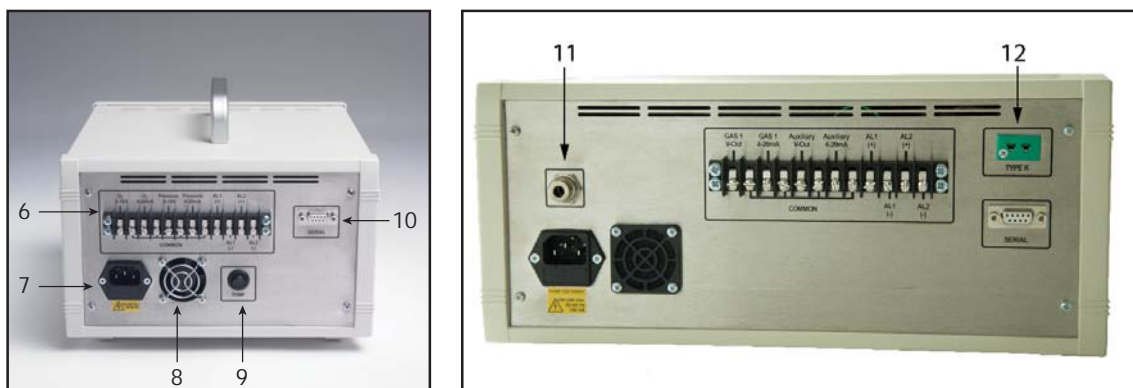

Figure 2 XGA301 Rear Panel (A1 & A3)
Ensure that the XGA301 analyzer is located away from extreme heat and dirty environments. Plug the unit into a suitable supply, using the power cable supplied, and into the power socket (*Figure 2 (7)*) on the rear panel. Make sure that the cooling fan (*Figure 2 (8)*) is not obstructed during operation.
NOTE: When the XGA301 is supplied without a pump AND with an electrochemical sensor then there will be an additional gas outlet port on the rear panel (see figure 2). This port acts as a vent for the pressure relief valve to ensure the sensor is not damaged by over-pressure. This port must be vented to a safe place especially when toxic or flammable samples are present.
There is an optional internal sample pump, if fitted there will be a Pump On/Off switch (*Figure 2 (9)*) on the rear panel.
The flow rate of gas drawn into the analyzer can be controlled using menu option Set Pump Flow. The unit is supplied with the flow rate set to 100% which equates to approximately 1.2 l/min. If the flow rate needs to be changed press the **ENT** key and use the **UP & DOWN** arrows to change the value from OFF to 100% in 10% increments. The pump can be switched on or off using the switch (*Figure 2 (9)*) on the rear panel. When using the unit with a pressurized gas source the pump can be switched off.